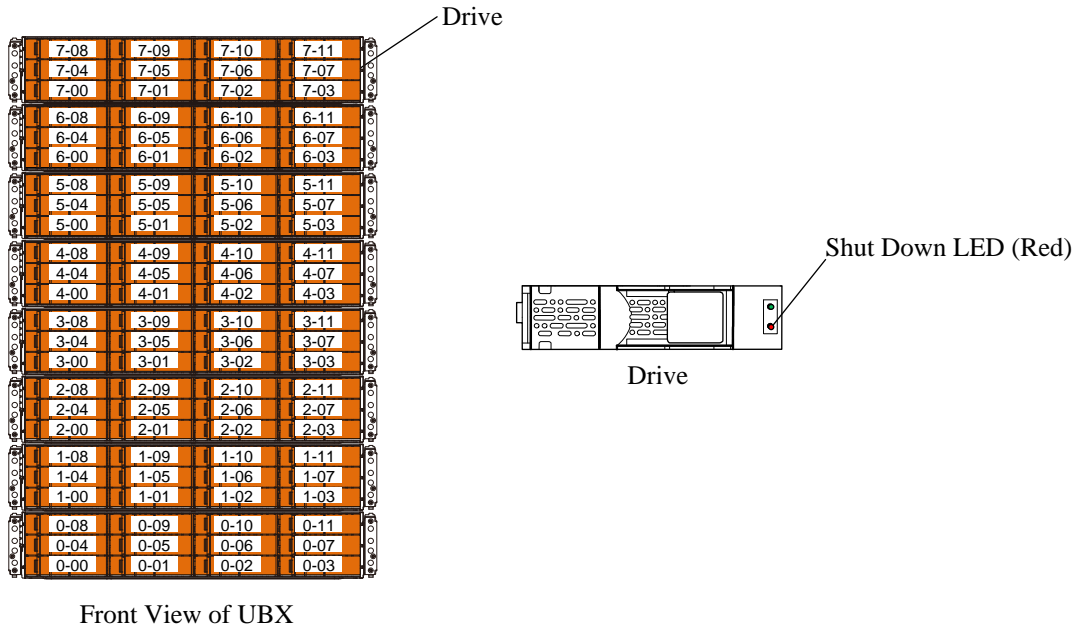

Fig. 3.1.2-1 Checking of Shut Down LED (In case of UBX)
- Check that the Shut Down LED on drive is turned on. Refer to Fig. 3.1.2-1, Fig. 3.1.2-2 or Fig. 3.1.2-3.